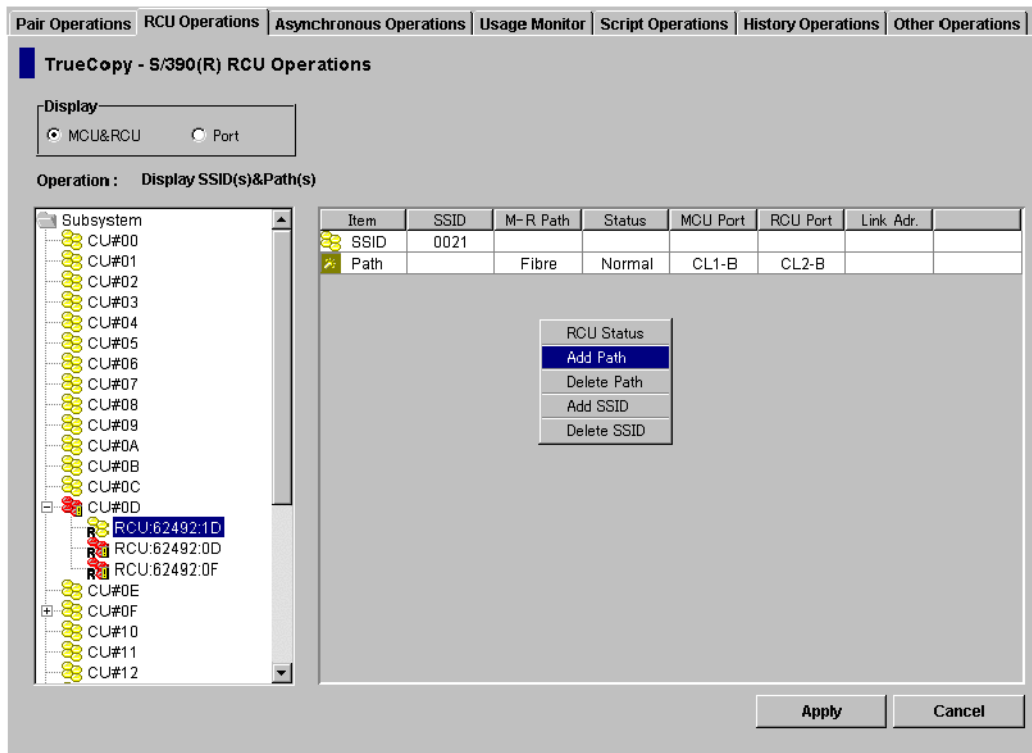

Figure 52 Opening the Add Path window
3. Right-click to display the pop-up menu, click **Edit SSID(s) & Path(s)**, and then click **Add Path** (see Figure 52). The Add Path window is displayed.